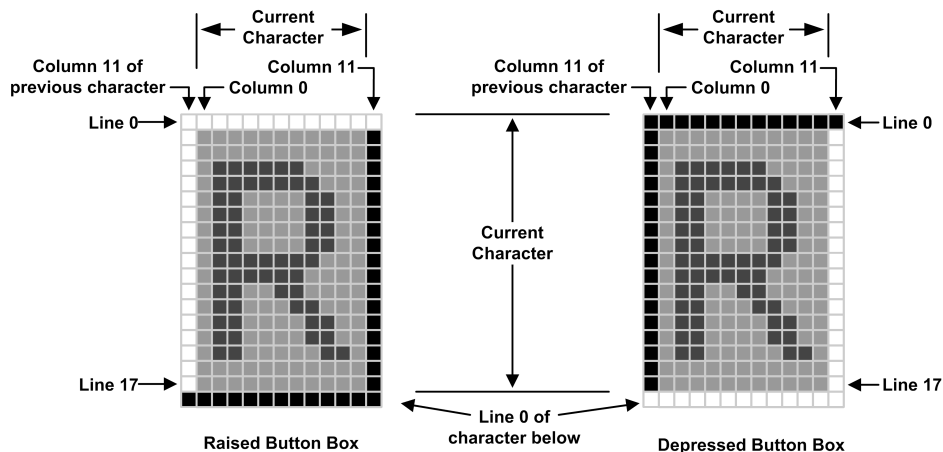
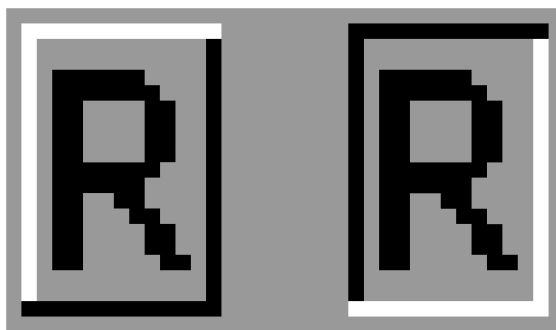

Figure 19. Button Box Detail
Figure 20. On-Screen Effect of Button Boxes
1. **Button Boxes**—The OSD generator examines the character string being displayed and if the “button box” attributes have been set in the Enhanced feature byte, then a box creator selectively substitutes the character pixels in either or both the top and left most pixel line or column with a button box pixel. The shade of the button box pixel depends upon whether a “depressed” or “raised” box is required, and can be programmed through the I2C compatible interface. The raised pixel color (“highlight”) is defined by the value in the color palette register, EF1 (0x8405–0x8406), which is normally set to white. The depressed pixel (“lowlight”) color by the value in the color palette register, EF2 (0x8407–0x8408), which is normally set to gray. See Figure 19 for detail and Figure 20 for the on-screen effect.